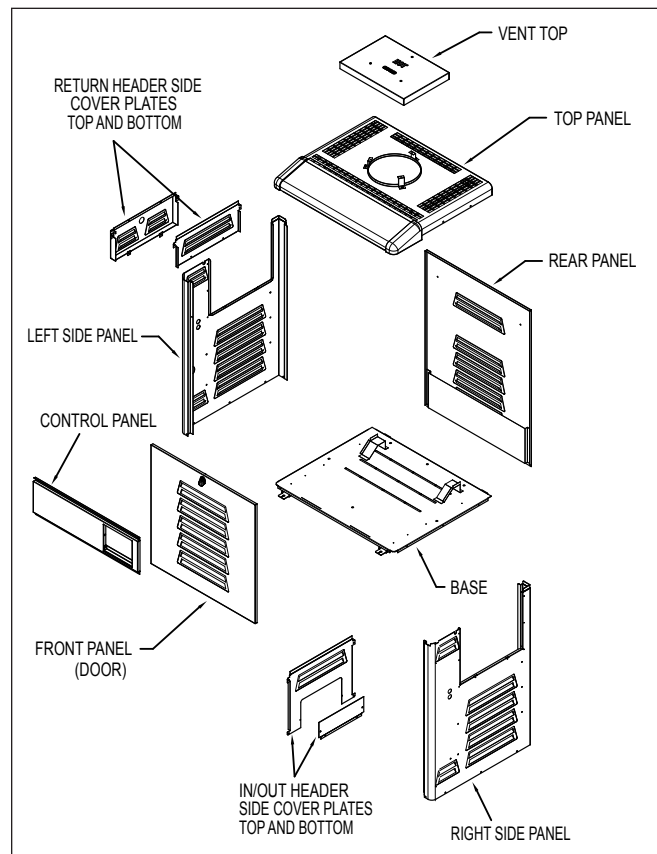

Figure 10. Legacy Model LRZ Panel Identification
1. For an existing installation, drain the heater by removing the two (2) drain plugs on the inlet/outlet header and the drain plug on the return header.
3. Remove the I/O header side cover plates, top and bottom. See Figure 10.
4. Remove the return header side cover plates, top and bottom. See Figure 10.
6. Disconnect the two (2) "WATER TEMP" temperature sensor leads from the Power Interface board on the raceway. Clip any wire ties attached to the harness. Pull the wires out of the cabinet so that they hang free from the header, outside of the cabinet.